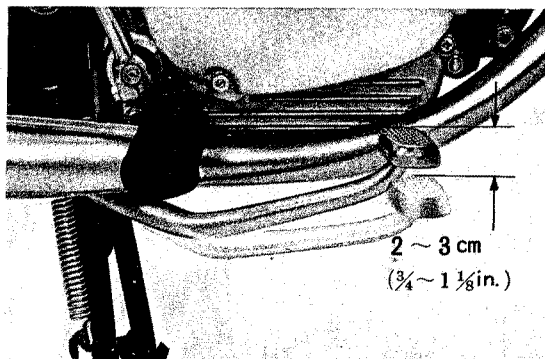

Fig. 21 Brake pedal play
Check the brake free play at the end of the brake pedal. The play should be 2-3 cm (3/4-1 1/8 in.). (Fig. 21) If it is not within this range, adjust it in accordance with the following procedure.
1) Turn the adjuster nut clockwise to reduce the amount of play in the brake pedal. (Fig. 21)